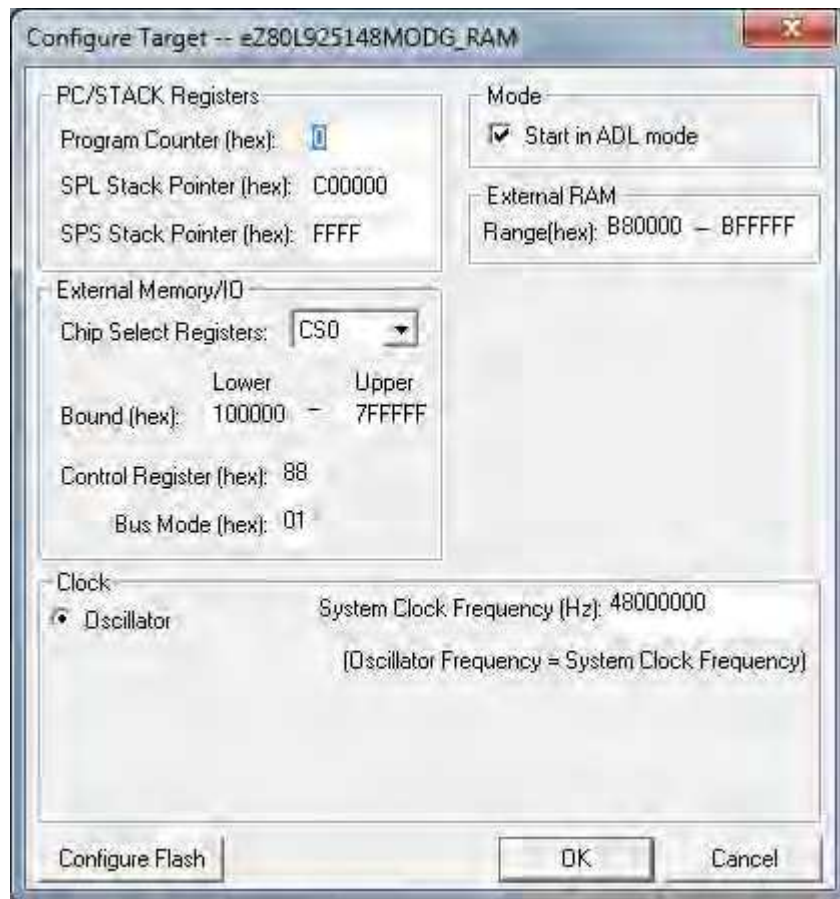

Figure 2. The Configure Target Dialog for the RAM Build
3. Click the **Setup** button. The Configure Target dialog will appear, as shown in Figure 2, which presents the default settings for the eZ80L925148MODG\_RAM ZTGT file. If you have not previously modified the contents of the eZ80L925148MODG\_RAM file, then you should see the values in Figure 2 after clicking the Setup button. Verify that your settings match the values shown in this figure.